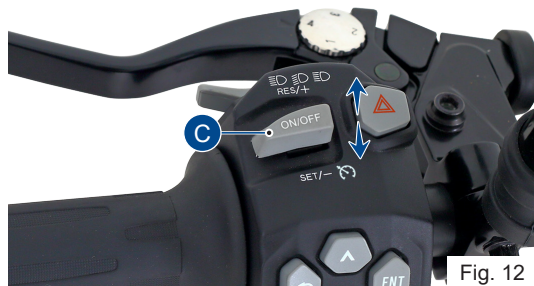

Fig. 12
C) Cruise control switch (ref. Fig. 12)